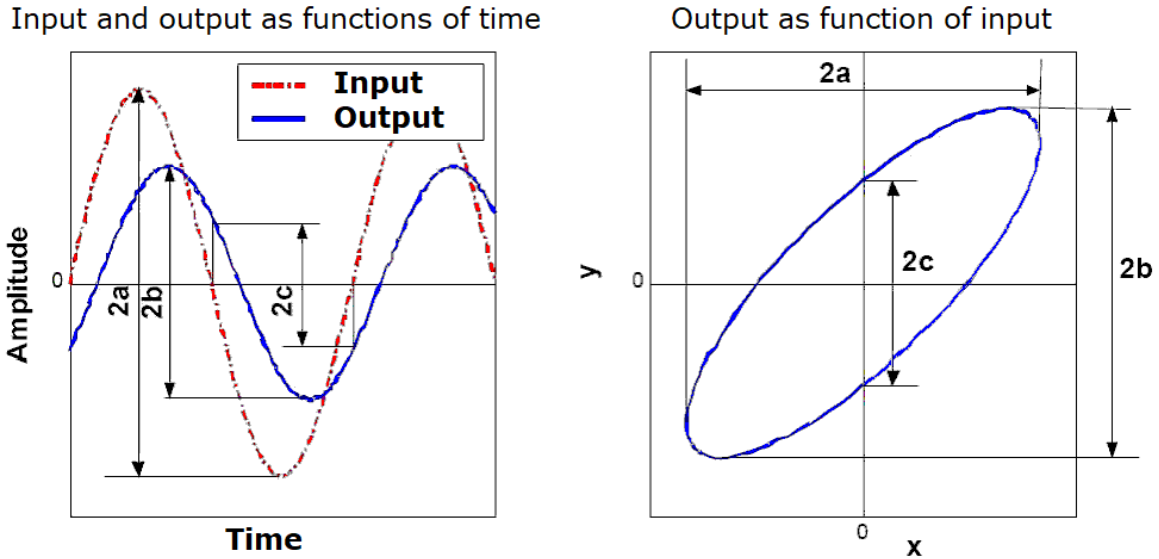

Figure 4.1: Left: input and output of a linear system. Right: corresponding Lissajous curve.
As you know, since the systems we are studying are linear, when the input is sinusoidal, the steady-state output is sinusoidal too, and has the same period of the input. This is shown in Figure 4.1.
- In Figure 4.1, the input V_i and the output V_o are given by
2. Measure its frequency response, for the frequencies listed in the Matlab program of Figure 4.4. Use any input amplitude you see fit, and set the oscilloscope to visualise the Lissajous curve as shown in Figure 4.1. Remember that you can change the scales of the axis, that you can shift the ellipse along both axis with the position buttons, and that values of $2a$, $2b$ and $2c$ all have Volt units. For high frequencies, you will surely have to change the scale of the B channel (or Y channel, depending on the model of the oscilloscope). Register the values in the program of Figure 4.4.